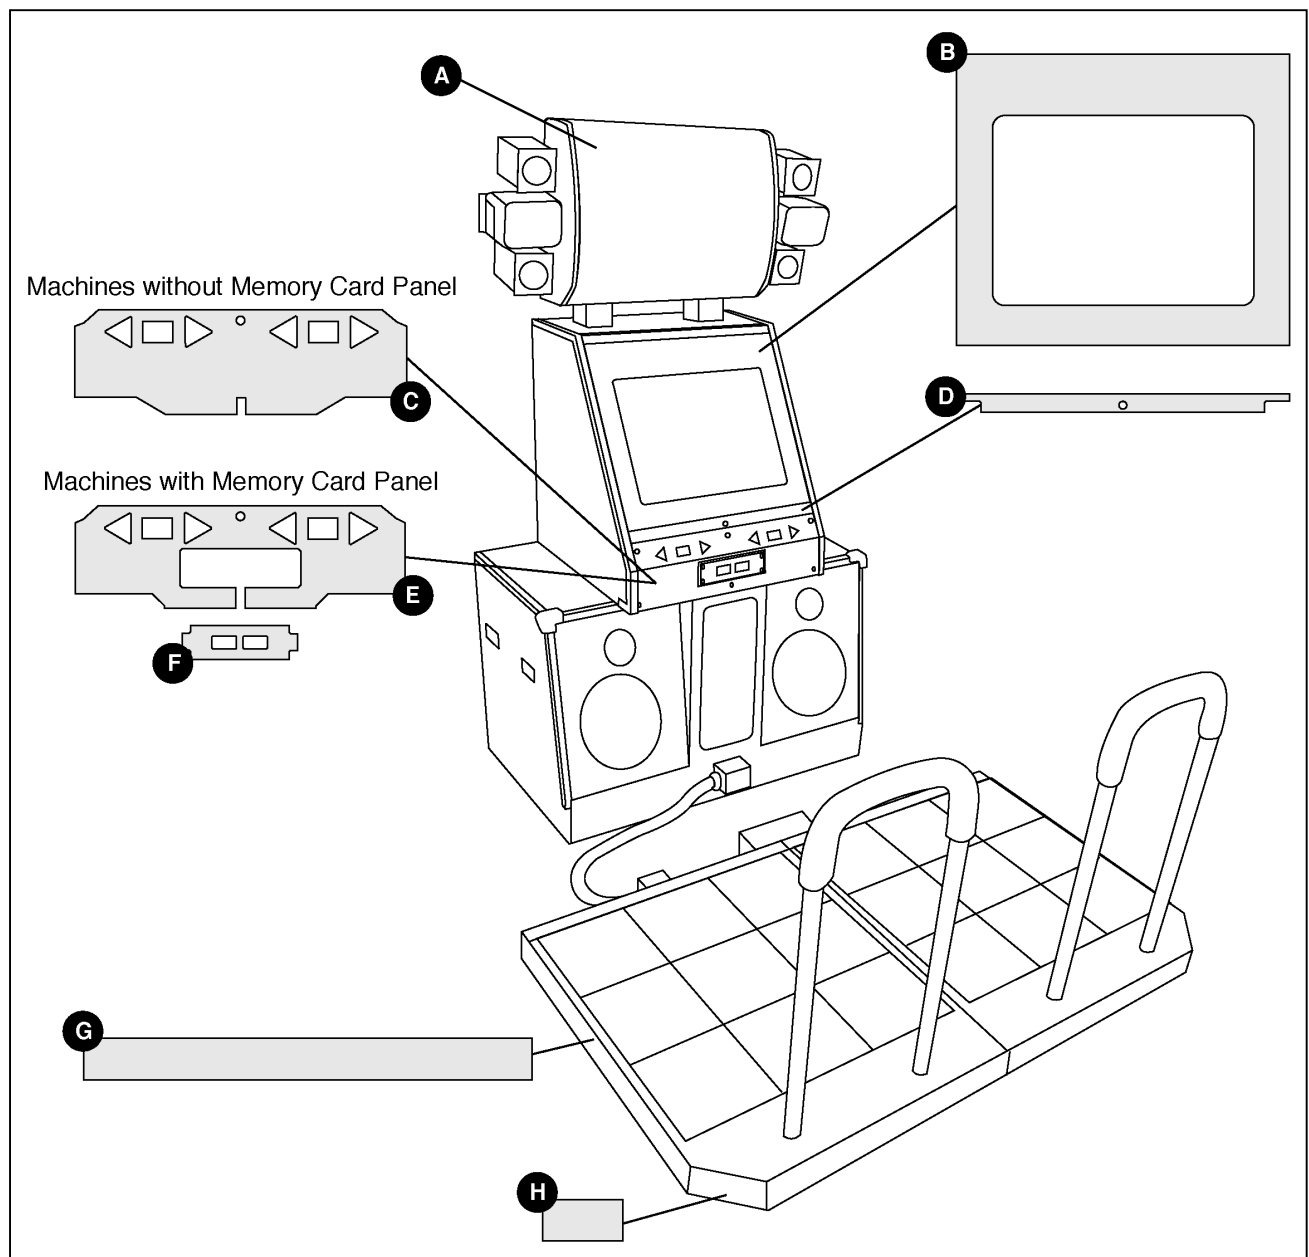

Figure 10: Sticker Placement
2. Use Figure 10 to determine the placement of each sticker. Apply using one of the two methods described in the section titled **How to Apply the ITG Stickers** on the previous page.